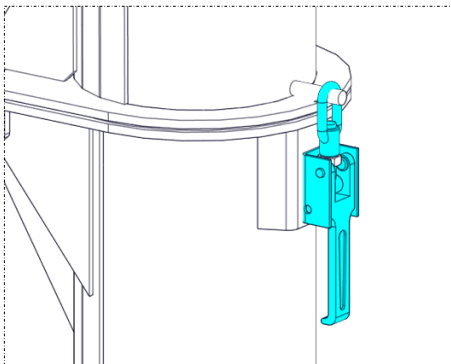

Figure 4.14
- 3) Secure the two auger halves together using the over-center latch (Figure 4.14).